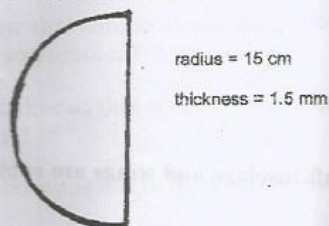

Figure 5
- b) Determine the shear flow distribution in the cross-section shown in Fig. 5 where the radius of the semi-circular part is 15 cm while wall thickness = 1.5 mm. The section is subject to a downward shearing force of 160 kN passing through the shear center. Make the initial cut exactly at the mid-point of the vertical wall AC and sketch the initial shear flow distribution first. Then determine q_0 and plot the final shear flow on a separate diagram.